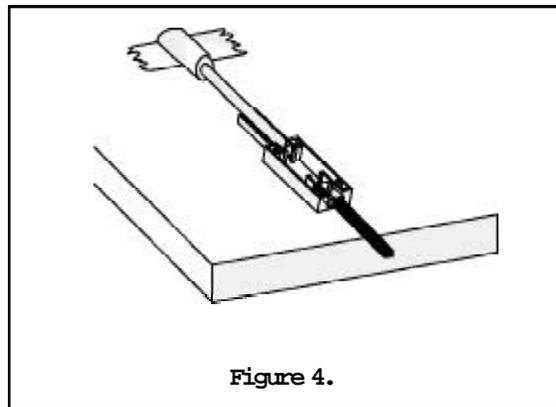

Figure 4.
7.10 Place the terminal assembly into it's cavity in the bottom of the splitter kit base (see figure 4).